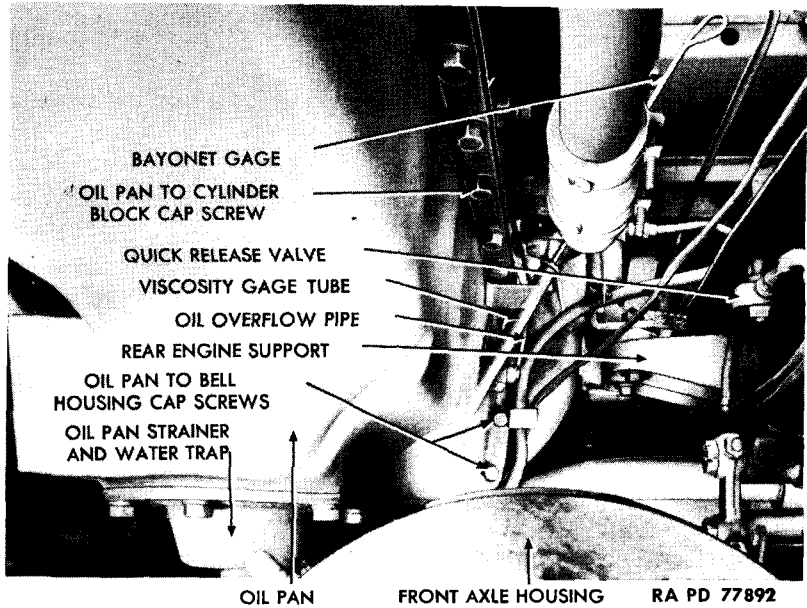
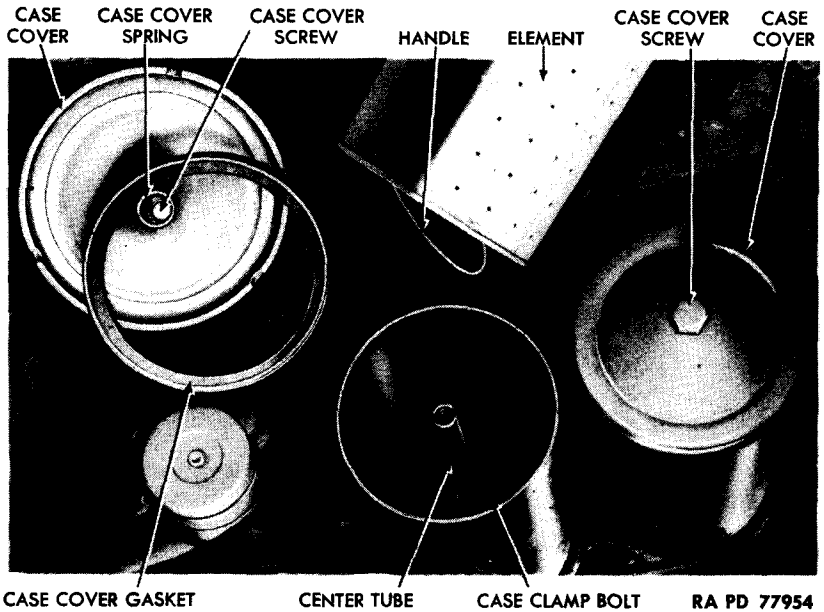
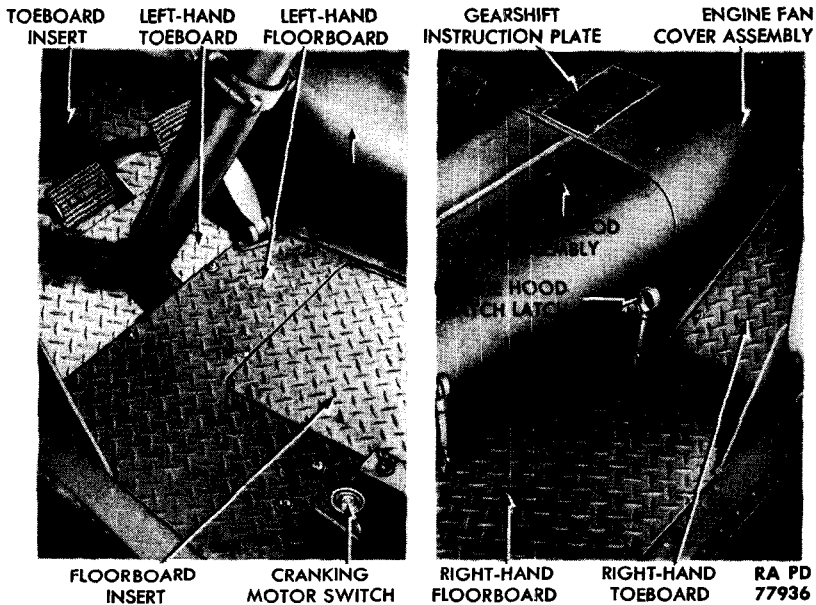

Figure 16 — Oil Pan Installed
Figure 17 – Oil Filters Partially Disassembled
Figure 19 – Floor Boards and Engine Hood
(1) **REMOVE ENGINE HOOD** (fig. 19) (par. 48).
(2) **REMOVE RIGHT-HAND FLOOR BOARD** (fig. 19). Remove the six screws and lock washers which attach floor board to cab, and lift floor board from cab.
(7) **INSTALL RIGHT-HAND FLOOR BOARD** (fig. 19). Position floor board in cab, and install the six lock washers and screws.
(8) **INSTALL ENGINE HOOD** (fig. 19) (par. 50).
(1) **DRAIN OIL** (fig. 16). Remove drain plug from center of oil pan strainer and water trap, and remove drain plug from rear of oil pan.
(2) **REMOVE STRAINER AND WATER TRAP** (fig. 16). Remove six cap screws and lock washers. Lift strainer, water trap, and gasket from oil pan.
(5) **INSTALL STRAINER AND WATER TRAP** (fig. 16). Inspect gasket, and replace if torn or crushed. Position serviceable gasket, strainer, and water trap assembly in oil pan. Install the six lock washers and cap screws.
(1) **REMOVE BAYONET GAGE.** Remove floor board insert (fig. 19), and pull bayonet gage (fig. 16) from its boss in oil pan.
(2) **DRAIN ENGINE OIL** (fig. 16). Remove drain plug and gasket from oil pan strainer and water trap. Remove drain plug and gasket from rear of oil pan.
(3) **DISCONNECT OIL OVERFLOW PIPE AND VISCOMETER GAGE TUBE** (fig. 16). Lines run from oil filter fitting on left side of oil pan. Unscrew both from fitting.
(4) **REMOVE OIL-PAN-TO-BELL-HOUSING CAP SCREWS** (fig. 16). Three are located on each side and one at lower center, each installed with a lock washer. Remove all.
(5) **REMOVE OIL-PAN-TO-CYLINDER-BLOCK CAP SCREWS** (fig. 16). There are 26 screws, each with a lock washer. Remove all screws.
(6) **REMOVE OIL PAN AND GASKETS** (fig. 16). Lower oil pan to floor, and remove the two side gaskets and front cork. **CAUTION: Do not damage or attempt to remove cork from bell housing.**
(2) **PLACE OIL PAN IN POSITION** (fig. 16). Position oil pan, using care to keep from dislodging gaskets, and install to crankcase with two cylinder block cap screws and lock washers. Tighten screws only fingertight, because their function is to hold oil pan in an approximately correct position.
(3) **INSTALL OIL-PAN-TO-BELL-HOUSING CAP SCREWS** (fig. 16). Tighten the seven screws, each assembled with a lock washer, alternately and securely.
(4) **INSTALL OIL-PAN-TO-CYLINDER-BLOCK CAP SCREWS** (fig. 16). Tighten the 26 screws, each assembled with lock washer, alternately and securely.
(5) **CONNECT OIL OVERFLOW PIPE AND VISCOMETER GAGE TUBE** (fig. 16). These lines run from fitting on left side of oil pan. Tighten both securely.
(6) **INSTALL BAYONET OIL GAGE** (fig. 16). Insert gage into its boss on left side of oil pan.
(9) **INSTALL FLOOR BOARD INSERT** (fig. 19). Position insert on left-hand floor board, and tighten the two wing screws which clamp it in place.
(3) REMOVE OIL FILTER ELEMENT (fig. 17). Remove floor board insert (fig. 19), and unscrew oil filter case cover screw. Lift cover and gasket from case. Grasp handle on top of oil filter element, and pull element from case.
(4) INSTALL OIL FILTER ELEMENT (fig. 17). Insert oil filter element, handle end up, into oil filter case. Place oil filter case cover
(1) **REMOVE FLOOR BOARD INSERT** (fig. 19). Loosen the two wing screws which clamp insert in place, and lift insert from floor board.
(6) **INSTALL FLOOR BOARD INSERT** (fig. 19). Position insert on floor board, and secure with two wing screws.
e. **Remove Engine Hood** (fig. 19). Remove the three screws, flat washers, and lock washers which secure left-hand side of hood to floor board frame. Disengage the two latches on right-hand side of hood.
f. **Remove Toeboards and Floor Boards** (fig. 19). Remove the 20 screws, 4 flat washers, 4 toothed lock washers, and 9 lock washers which secure toeboards and floor boards to cab frame. Lift out toeboards and floor boards.